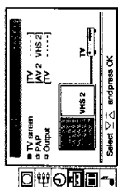

Fig. 50
- 1 Select the symbol **0** for »Video Connection« with **Δ** or **∇** and press OK. The VIDEO CONNECTION menu appears. (See Fig. 50)